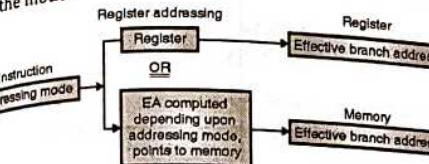

Fig. 4.9.2 : Intrasegment Indirect
- The contents of IP are replaced by effective branch address. Refer Fig. 4.9.2 for graphical representation of the mode.